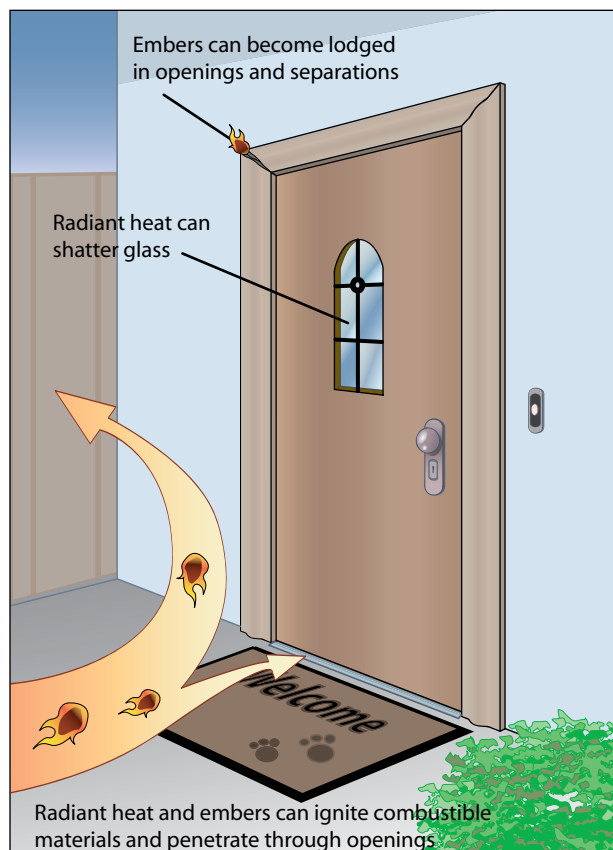

Figure 1. Types of exposure that exterior doors can be subject to in a wildfire.
- Exterior doors are subject to the same types of exposure as exterior walls in a wildfire (see Figure 1). However, exterior doors are typically much thinner and less fire-resistant than exterior walls and can therefore burn through much faster.